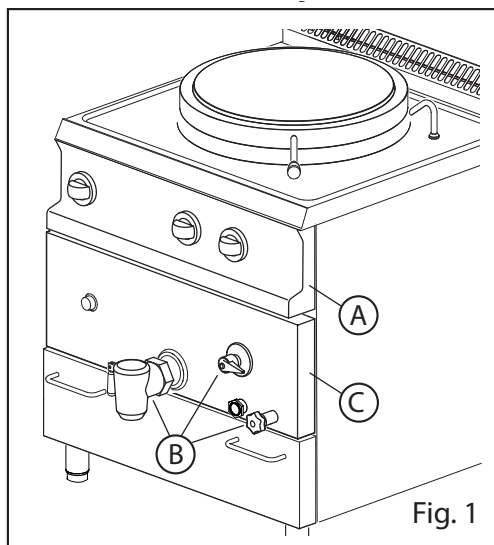

Fig. 1
- Remove the pot drain taps, cavity load and cavity level (Fig. 1/B)
- Remove the central panel (Fig. 1/C)
1. The panel, the knobs (Fig. 1/A) and the panel (Fig. 1/B)